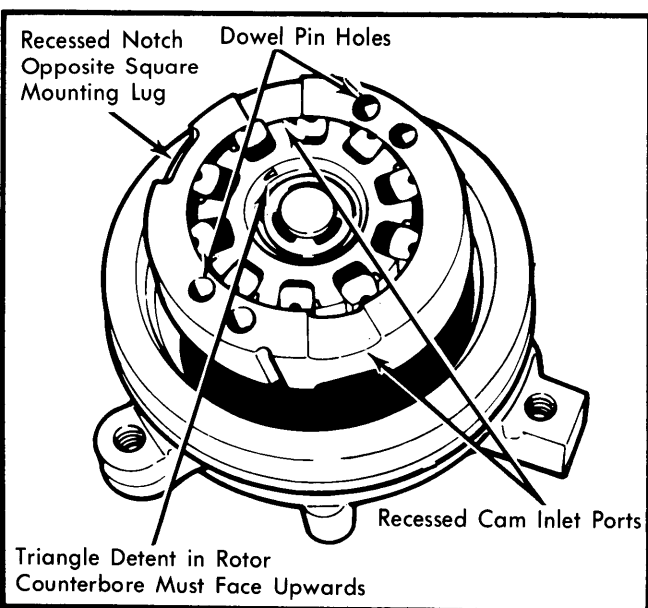
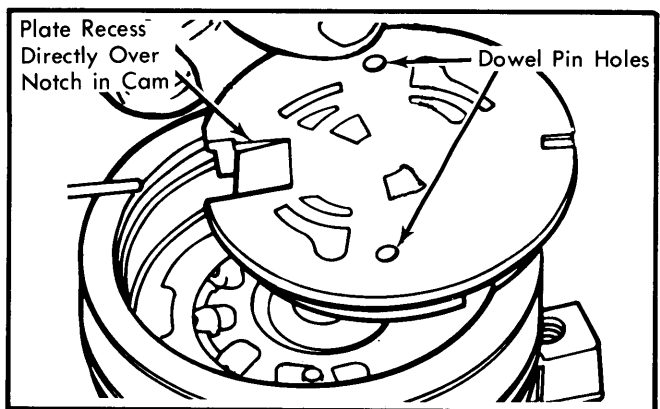

Fig. 4 Assembling Cam and Rotating Assembly
Fig. 5 Upper Pressure Plate Installation
Reassembly — 1) If rotating group was disassembled, place rotor on shaft with triangular detent facing upward. See Fig. 4. Install retaining ring at end of shaft. Place insert cam over rotor with recessed notch on cam facing up.
5) Install rotating assembly over dowel pins and into housing as shown in Fig. 4. Place upper pressure plate over dowel pins with recess directly over recessed notch on cam insert as shown in Fig. 5.